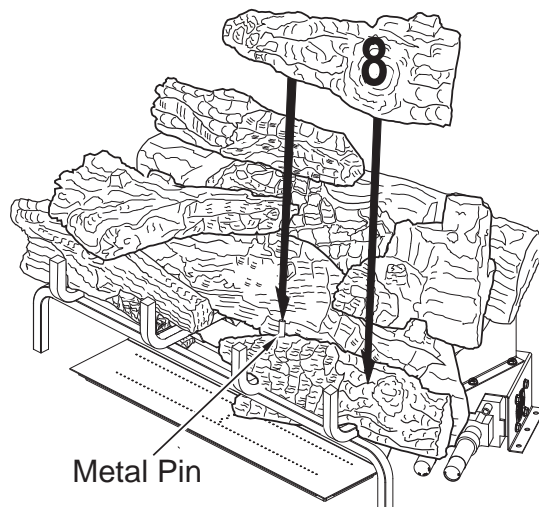

Figure 28 - Installing Log # 8
8. Place the front right mid log (#8) on top of the front right log (#4) as shown in **Figure 28**. Match the round metal pin on the top of the front right log (#4) with the round hole on the bottom of the front right mid log (#8).